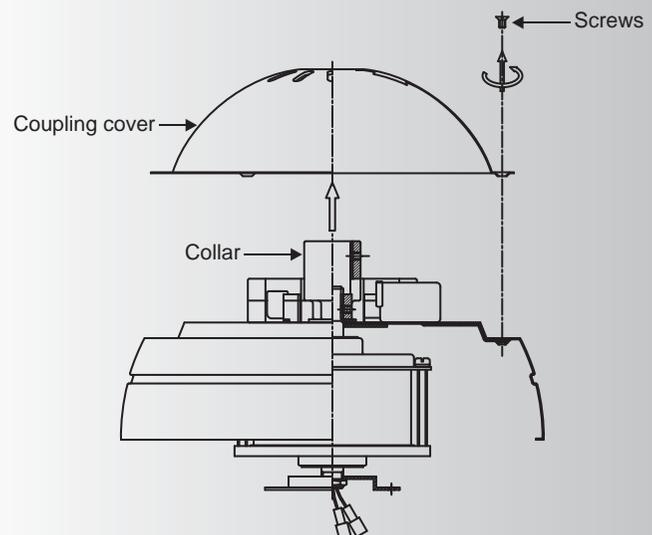

Fig. 7
Step 5. Remove the coupling cover from the motor housing by removing the three screws from the rim of coupling cover. (Fig. 7)